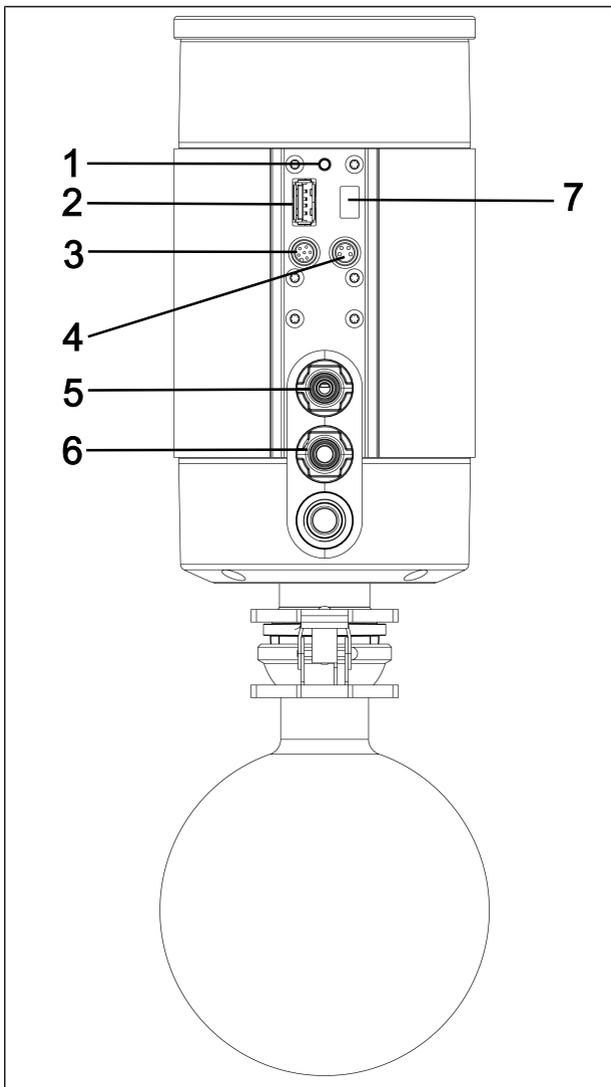

Fig.23: Separator SC
If the Paging button (Fig. 23/1) on the vacuum system is pressed and held for about 5 seconds, the vacuum controller responds to the vacuum system Paging button with an acoustic signal (see Chapter 10.2 *Operation without the vacuum controller* [72]).
3. Press the Pairing button (Fig. 23/1) on the pump for about 10 seconds.
If the vacuum controller has been removed, the following action can be carried out directly at the vacuum system (Fig. 23):